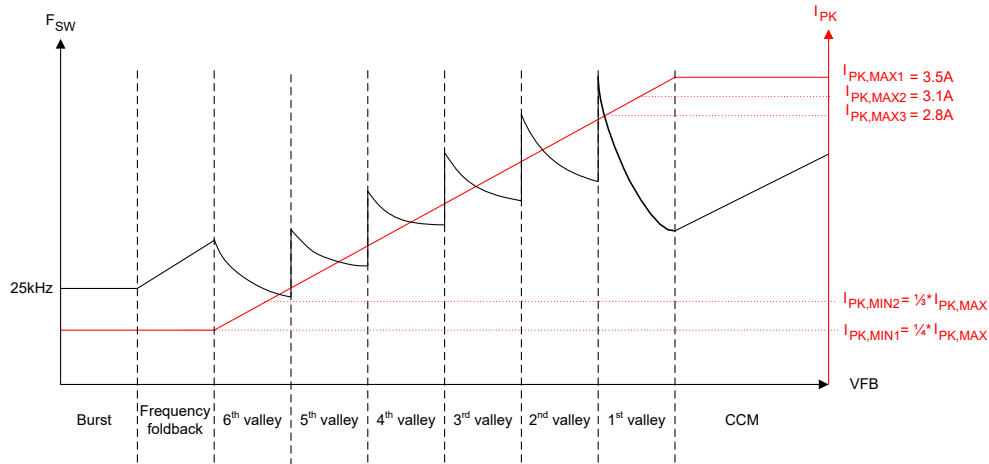
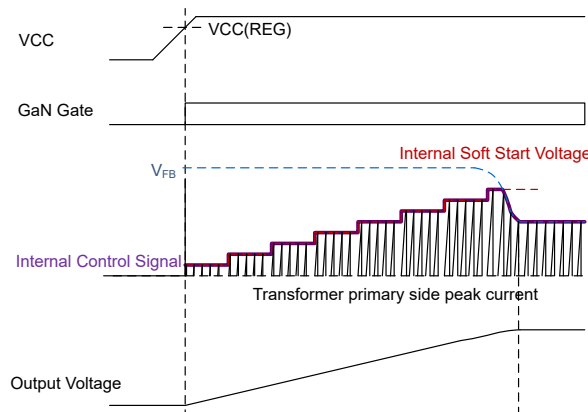

Figure 7-3. UCG2882x Control Law
Figure 7-8. Soft Start Sequence
Connect the feedback (FB) pin to the collector of the optocoupler for output regulation. This pin has an internal 60k Ω pull up for optocoupler bias. The instantaneous voltage on this pin determines the switching frequency, peak current and mode of operation (burst, foldback, valley switching or CCM) as per the control law in Figure 7-3 to deliver the required output power. Connect a 100pF or 220pF capacitor from this pin to ground for high frequency noise filtering.
Hence, in UCG2882x, in every switching cycle, the primary GaN HEMT turns off after reaching the peak current threshold and turns on next at a target valley in magnetizing ring during discontinuous mode (DCM) operation. The instantaneous primary peak current and target valley is determined by the feedback (FB) pin voltage as per the control law of Figure 7-3. Connect the FB pin to the optocoupler collector. The negative feedback loop sets FB pin voltage to the required value to support a certain V_{OUT} and P_{OUT} on the output. The device can operate in one of the four modes of operation: burst, frequency foldback, valley switching or continuous conduction mode, as described later.
In the control law shown in Figure 7-3, the UCG2882x offers flexibility to select a max peak current $I_{PK,MAX}$ to optimize for the switching frequency at rated load and transformer size. For each $I_{PK,MAX}$ setting, a scaling ratio of 1/3rd or 1/4th is available for the minimum peak current $I_{PK,MIN}$. This $I_{PK,MIN}$ value determines the switching frequency and losses in light load conditions when the flyback converter is operating in frequency foldback or burst modes. For all values of $I_{PK,MAX}$ and $I_{PK,MIN}$, the slope of control law peak current vs feedback voltage remains the same, as per Equation 1. Table 7-5 shows the threshold voltages for transition between different modes and between valleys for different peak current settings of Table 7-2.
The UCG2882x is designed to operate with soft switching and primary FET turn-on at a valley to reduce switching losses. The converter operates in valley switching except during peak load transients during which control can transition to CCM mode (if enabled using CDX pin). During valley switching mode, the target valley and peak current threshold are governed by the control law of Figure 7-3 and Equation 1:
As shown in Figure 7-3, once the boundary of 1st valley QR operation is reached with increasing output power, the control clamps I_{PK} to the maximum selected value $I_{PK,MAX}$, and begins to reduce the secondary conduction time T_{OFF} in CCM mode. This reduction in T_{OFF} is proportional to increase in FB pin voltage, till 50% of the QR mode off-time to reach max. 1.5x the QR mode output power delivery capability. Care needs to be taken to use a primary magnetizing inductance L_M large enough to not hit the frequency clamp during CCM mode and avoid any subharmonic oscillations which could increase output voltage ripple, depending on application requirements. For long duration output power transients, the converter returns to 1st valley QR mode after expiry of the 10ms CCM timer and continues to deliver the largest possible output power at the transition point of QR and CCM modes, while operating in QR mode. The device offers flexibility to enable/disable CCM mode operation with a resistor from the CDX pin to GND as per values in Table 7-4.
When turned on, a flyback converter starts with 0V output voltage. This can cause the feedback voltage FB to clamp to its max. value and trigger overload protections. To prevent this from happening, the UCG2882x starts in soft start mode. As Figure 7-8 shows, during this time, an internal FB voltage ramp increases in eight steps from 0V to its max. value in 4ms. The max. value of internal FB ramp is at FB pin voltage equivalent of 80% of $I_{PK,MAX}$ setting and changes for different resistor settings on IPK pin. During this time, the smaller of this internal ramp voltage and actual FB pin voltage is used to determine the device operating point in the control law of Figure 7-3. Once the internal FB ramp voltage reaches the max. value at the end of 4ms is when control is transferred to FB pin voltage for output regulation. Soft start sequence is executed every time at start up or when recovering from fault (auto-retry or latch) and brown-out conditions. The minimum frequency clamp is changed to 10kHz only during soft start (which is otherwise at 25kHz during normal operation). This helps at startup when valleys are missing and the control law forces turn-on of primary GaN HEMT every 100 μ s from the last turn-on edge (if valleys are missing), to charge the output capacitor.